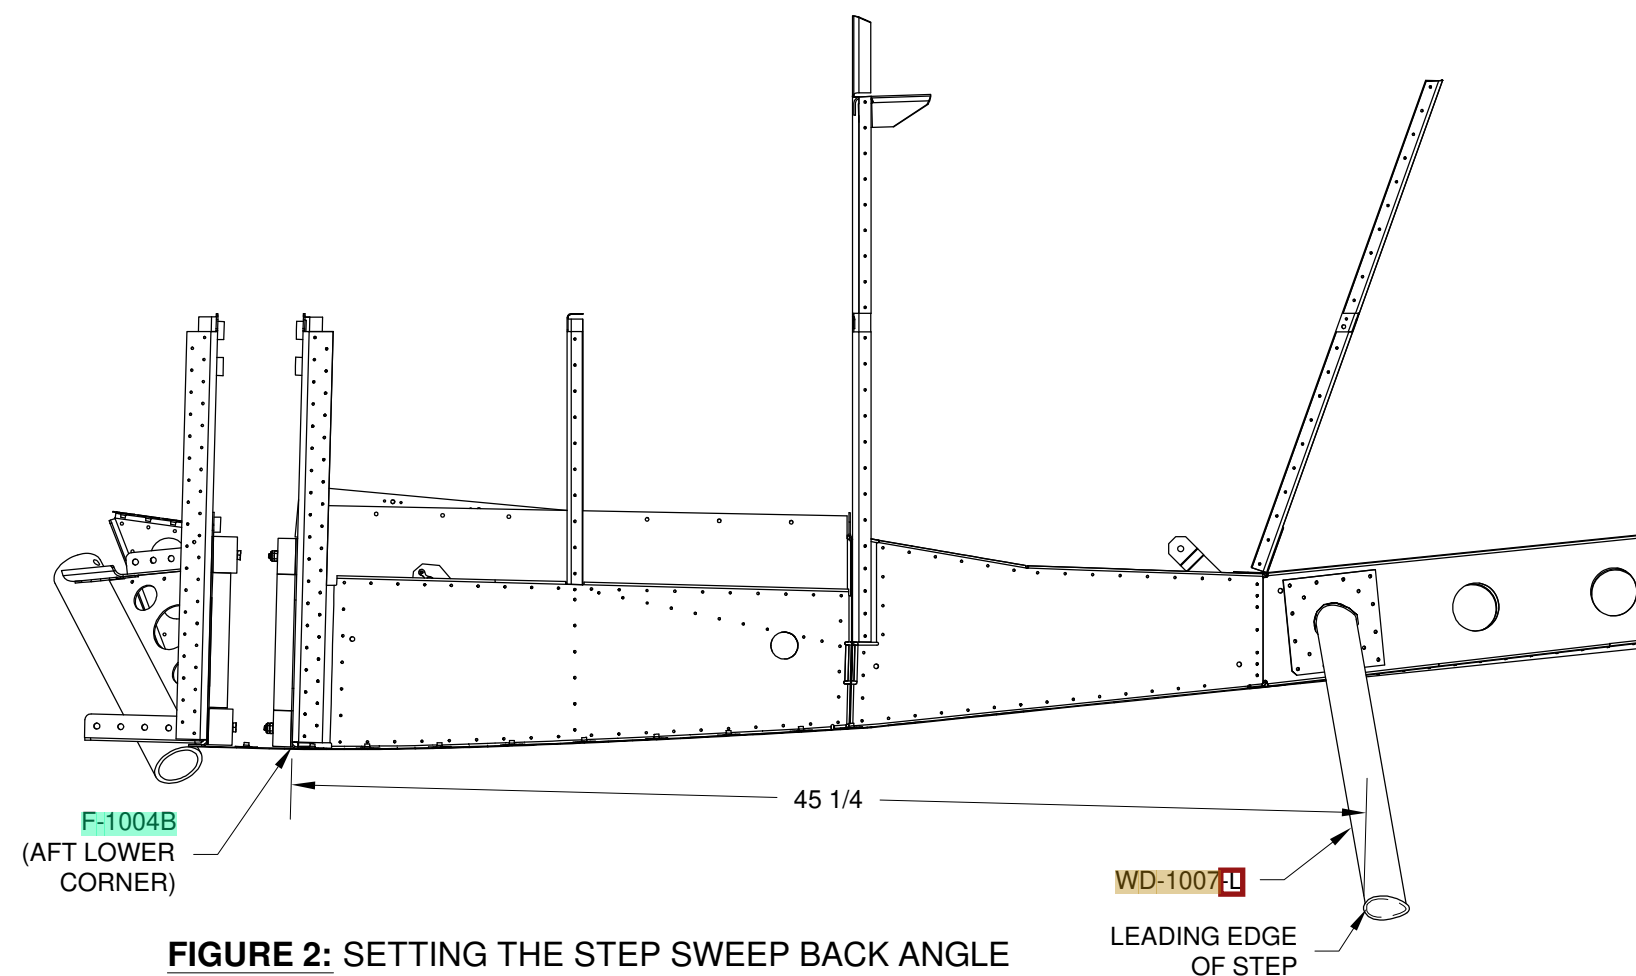

FIGURE 2: SETTING THE STEP SWEEP BACK ANGLE
Step 2: Use the dimension given in Figure 2 to set the proper sweep back angle of the WD-1007-L Step. The dimension given is from the lower aft edge of the F-1004B Center Section Bulkhead stub to the leading edge of the step (not the leading edge of the step end plate).